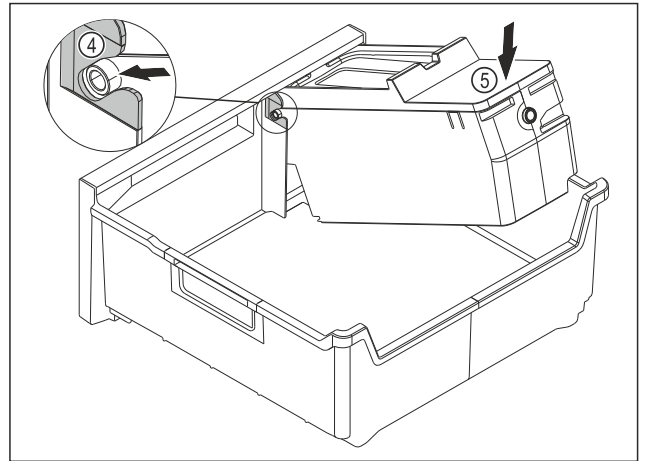

Fig. 109
- ▶ Installing the EasyTwist-Ice body: Push the axes for the EasyTwist-Ice body into the guides Fig. 109 (4).
- ▶ Press the EasyTwist-Ice body Fig. 109 (5) down at the back.